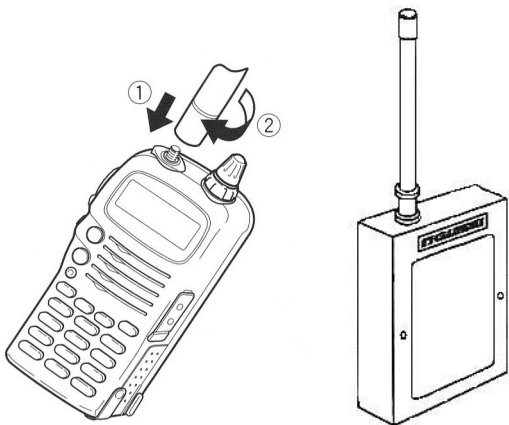

Figure 2.1
2. Install the enclosed antennas to both the Handheld Radio Remote and the REC-RR Radio Remote receiver (Figure 2.1).